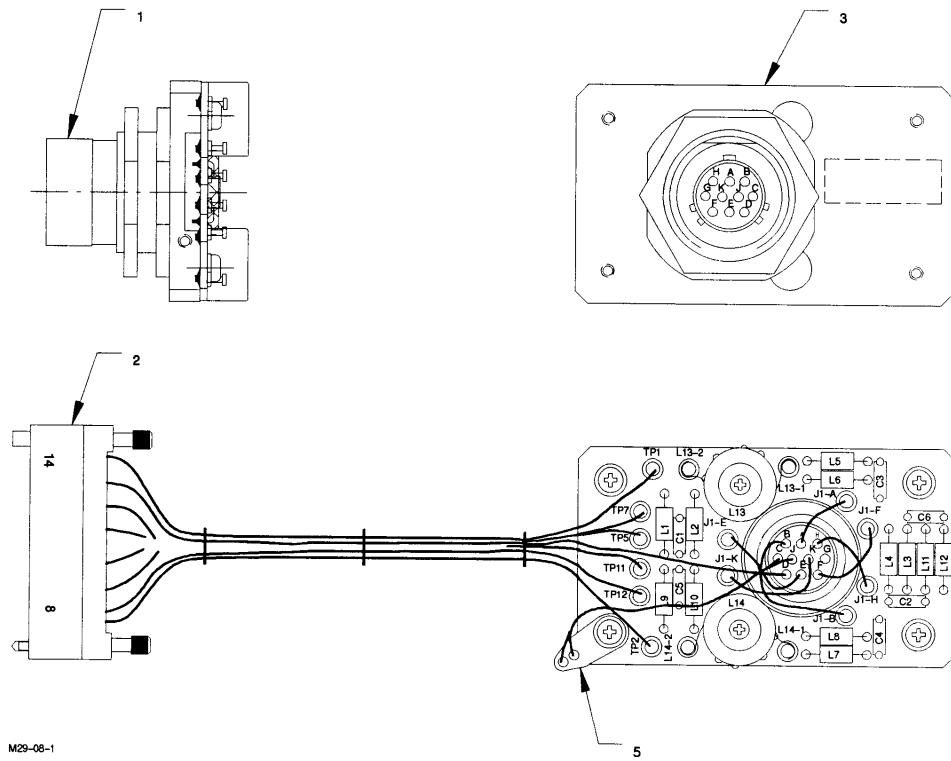

Figure D-38. EMI Filter Module, AY6707289-1
**D.8.7 Visual Inspection.** Refer to Figures D-38. and D-39.